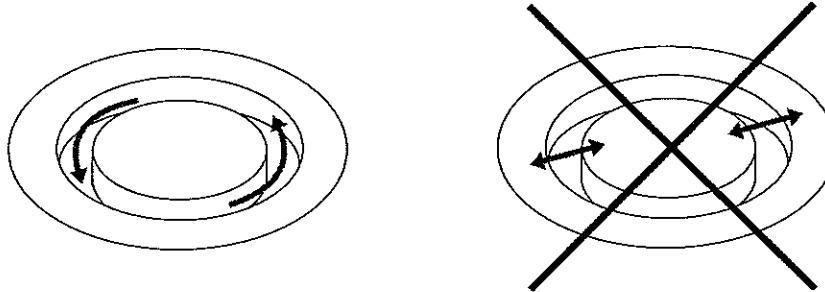

Fig. 7-1 Wiping direction in the sealing groove
- 2 Before installing the clean O-ring, clean the groove in the direction of rotation with a rag soaked in ISO. Wipe in only one circular direction and not across the groove. See Fig. 7-1, 77.